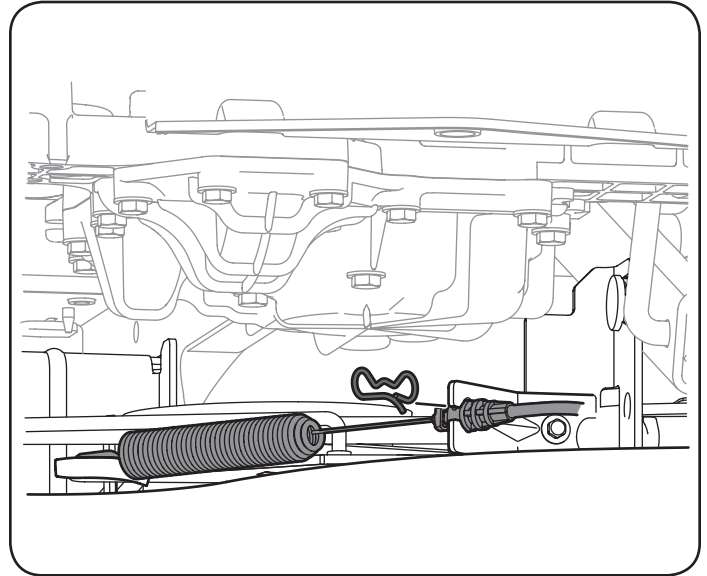

Figure 25
- e. Remove the bow-tie pin that secures the PTO cable to the bracket on the deck, pull back on the PTO cable, then slide it out of the bracket and unhook the spring from the idler bracket. See Figure 25.